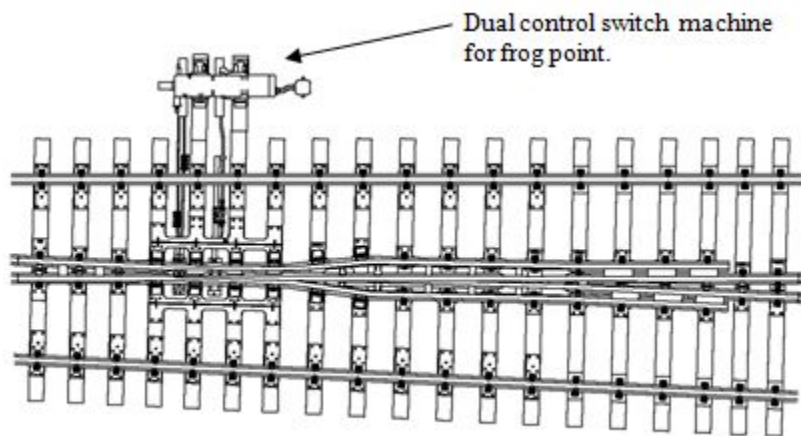

Figure 107I *Movable Point Frog*
- Movable Point Frog (MPF) - The MPF is equipped with a point that is movable in the same manner as switch points. This frog is used in heavy tonnage, high-speed main track where the traffic on the straight and diverging sides of the turnout are comparable. Do not arc weld on MPF frogs. (Refer to Figure 107I)